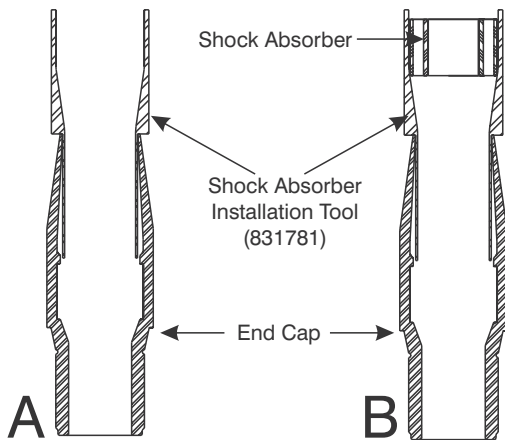

Figure 9-1. End Cap, Tool P/N 831781 and Shock Absorber
1. Position the End Cap (16) in an arbor press with the threaded end up. Insert the Shock Absorber Installation Tool, P/N 831781 into the threaded end of the End Cap as shown in Figure 9-1-A.
the Shock Absorber into the Installation Tool as shown in Figure 9-1-B.